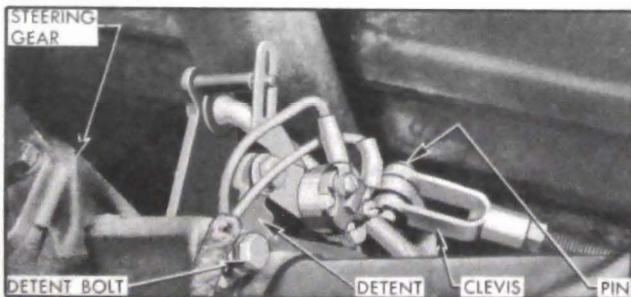

Figure 4-41—Shift Rod Adjustment
1. Place shift control lever in Neutral (N) position so that detent plunger is centered in detent notch, then move control lever until stop pin is against stop in dial housing and note the movement of dial pointer.
2. Repeat this operation in the low (L) position. The movement of dial pointer should be approximately equal in Neutral and Low. If it is not, loosen the control detent mounting bolts (fig. 4-41) and shift detent until movement of dial pointer is equal in both ranges. Tighten mounting bolts securely.
3. Place shift control lever in Low (L) position and carefully bend dial pointer, if necessary, to center the pointer behind the letter "L" on dial.
4. Park car on ramp or steep grade with control lever in Parking (P) position to determine whether parking lock holds securely. Then let car roll with control lever in Neutral (N) position and listen for a clicking or ratchet noise which would indicate that parking lock pawl is contacting the parking lock ratchet wheel.
6. Place control lever in Parking (P) position and disconnect shift rod from shift idler lever by removing clevis pin and washers. See figure 4-41. Pull forward on shift rod and move car slightly to make sure that locking pawl is fully engaged in ratchet wheel. *Do not jerk on rod as this may spring linkage in rear bear-*